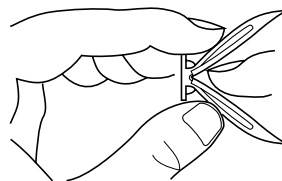

Figure 8 - Folding Anchor
2. Fold wall anchor as shown in Figure 8.